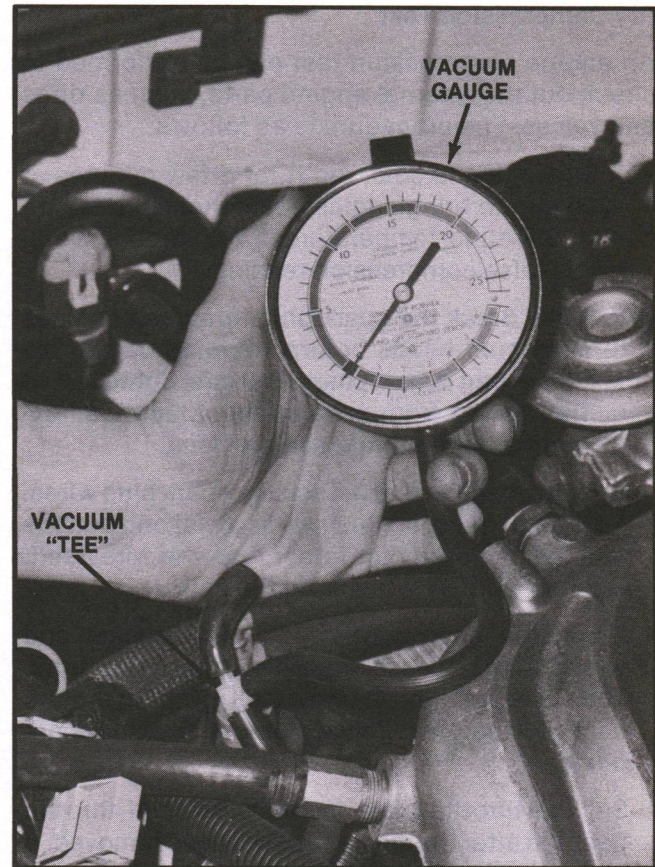

Figure 47. Installing Vacuum Gauge for Manifold Vacuum Test
- Disconnect the intake manifold vacuum line at the manifold and install a vacuum gauge in the line with a "T" fitting, or install it on an empty port of the vacuum tree (Fig. 47).